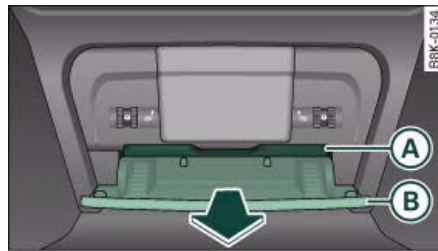

Fig. 96 Rear centre console: Ashtray
- Pull the front lip of the ashtray (B) ⇒ fig. 96 in the direction of the arrow.